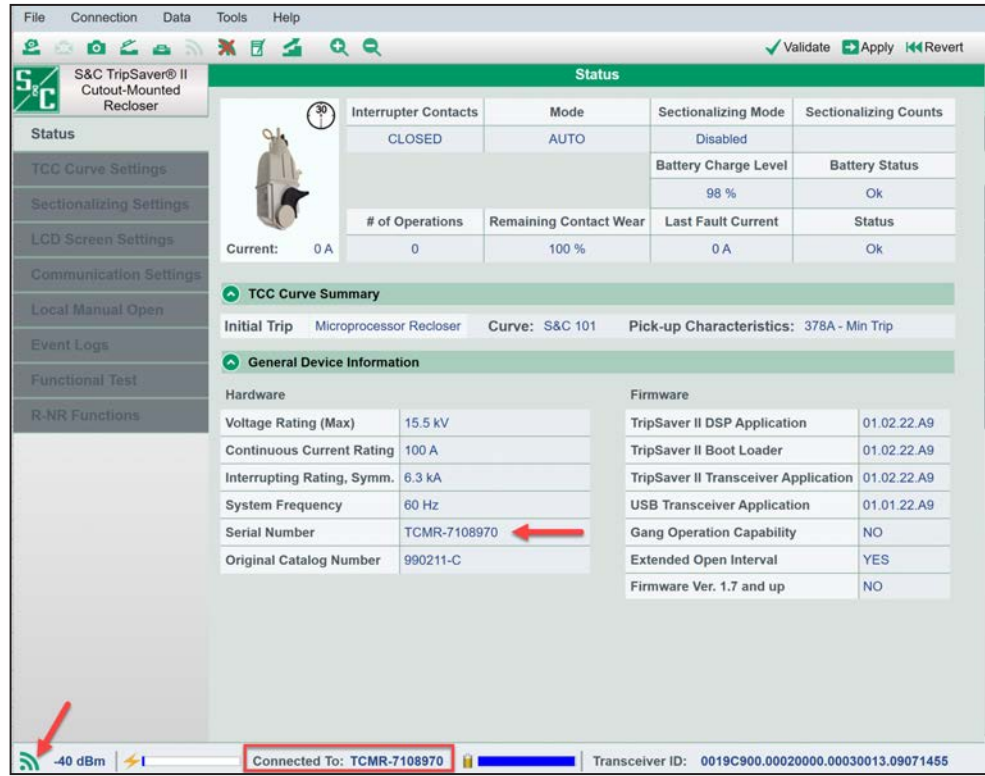

Figure 52. The TripSaver II recloser serial number and Signal Strength indicator locations.
STEP 2. Make a note of the serial number, starting with “TCMR,” of the TripSaver II recloser to be updated. See Figure 52. This number is also etched on the body of the TripSaver II recloser.
STEP 3. Check that the **Signal Strength** indicator on the left side of the Additional Information Bar is green. See Figure 52. See the “Additional Information Bar” section on page 49 for more information on the **Signal Strength** indicator. Then, optimize the signal strength between the TripSaver II recloser and USB transceiver, as described in the “Optimizing Signal Strength” section on page 109. If in an area with strong signal interference, or if the **Signal Strength** indicator is yellow or red, do not try to update the TripSaver II recloser’s firmware.